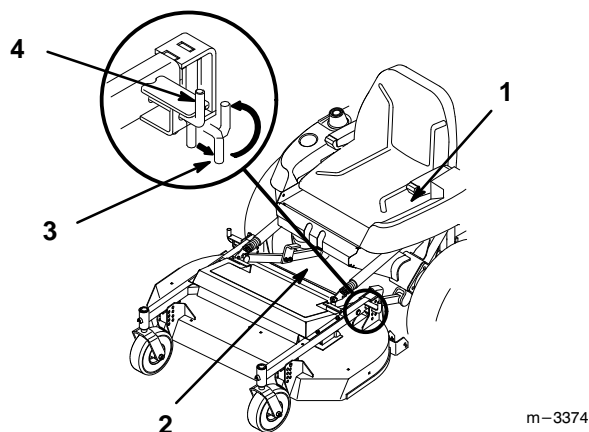
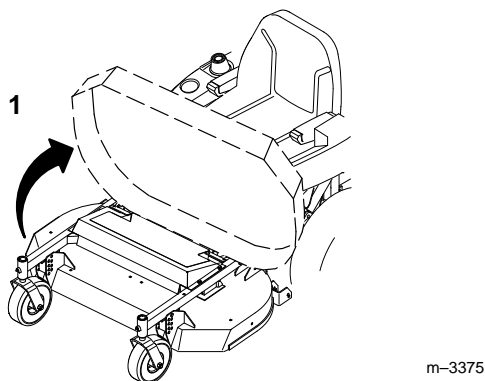

Figure 23
Figure 24
1. Turn engine off, set the parking brake and check that PTO cover is down against footrest (Fig. 23).
3. Lift on side of the mower to release weight on latch pin and pull out on latch pin to release (Fig. 23). Lower rear of mower onto anti-scalp rollers. Repeat on the other side.
4. Standing in front of the mower, lift up and push rearward on front to raise mower (Fig. 24). Raise mower until it contacts stops and latch pins snap into locked position.
1. Pull out latch pins and rotate into notch, holding in the open position (Fig. 23). Standing in front of the mower, pull forward on the front and lower mower (Fig. 24).
2. Rotate latch pins into released position and lift up on side of the mower until latch pin engages (Fig. 23). Repeat on the other side.